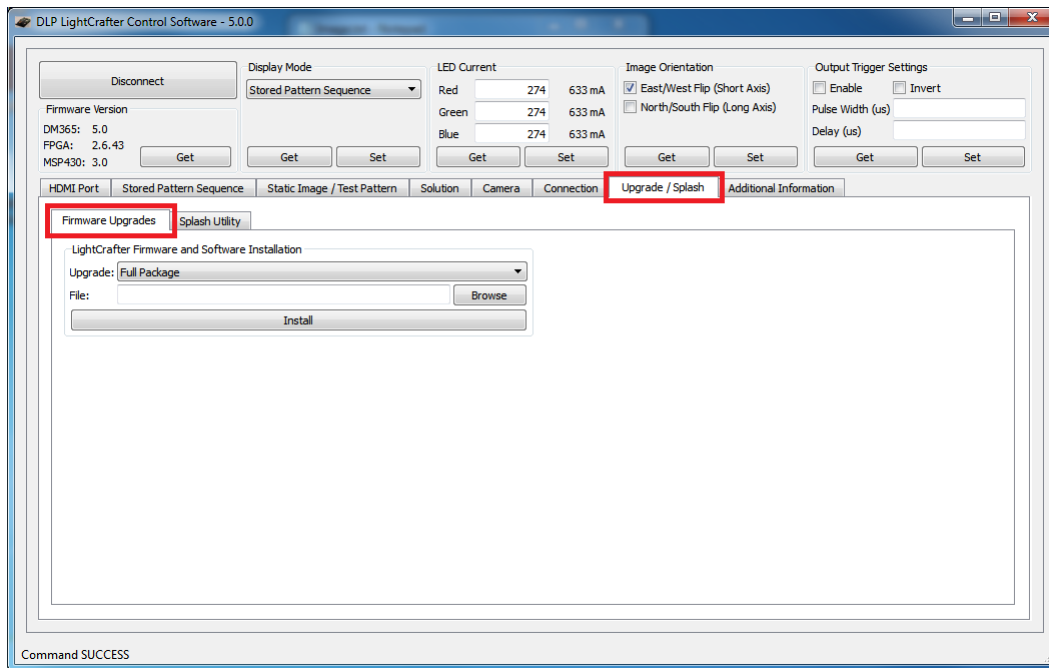

Figure 2-55. DLP LightCrafter GUI Firmware Upgrade Tab
1. Select the "Solution / Splash" and "Firmware Upgrades" tabs as shown in Figure 2-55.